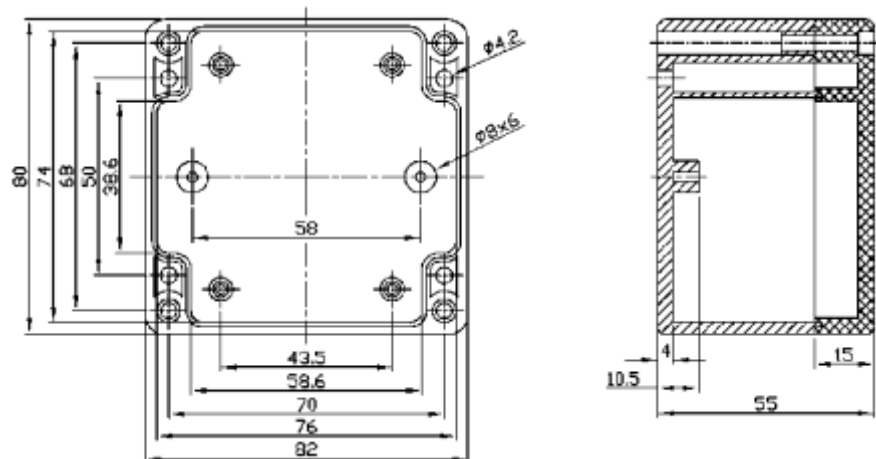

Figure 3 Sealed Polycarbonate Enclosures 82 x 80 x 55mm details. Designed to IP65 of IEC 529 and NEMA 4
- Sealed Polycarbonate Enclosures 82 x 80 x 55mm from Jaycar Cat. No. HB-6230. See Fig 3 for details